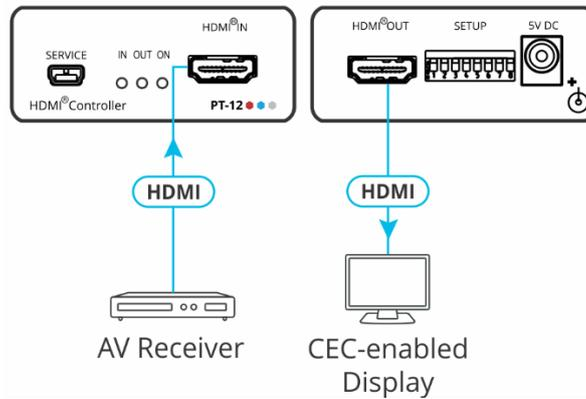

Figure 2: Connecting to the PT-12
To connect PT-12 as illustrated in the example in Figure 2:
1. Connect the HDMI source (for example, an AV receiver) to the HDMI IN Connector (5) on the front panel.
2. Connect the HDMI OUT Connector (6) to a CEC-enabled display.
3. Connect the power adapter to PT-12 and to the mains electricity (not shown in Figure 2).